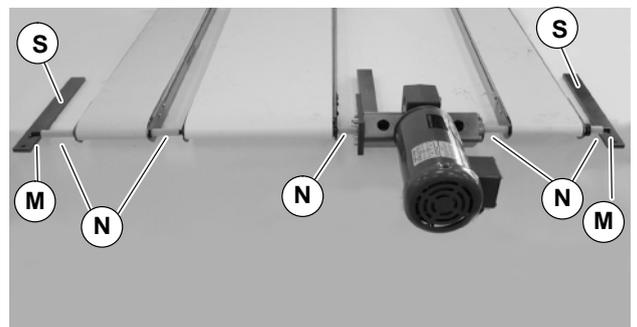

Figure 34
- Remove hex shafts (M of Figure 34) and shaft cover pieces (N).